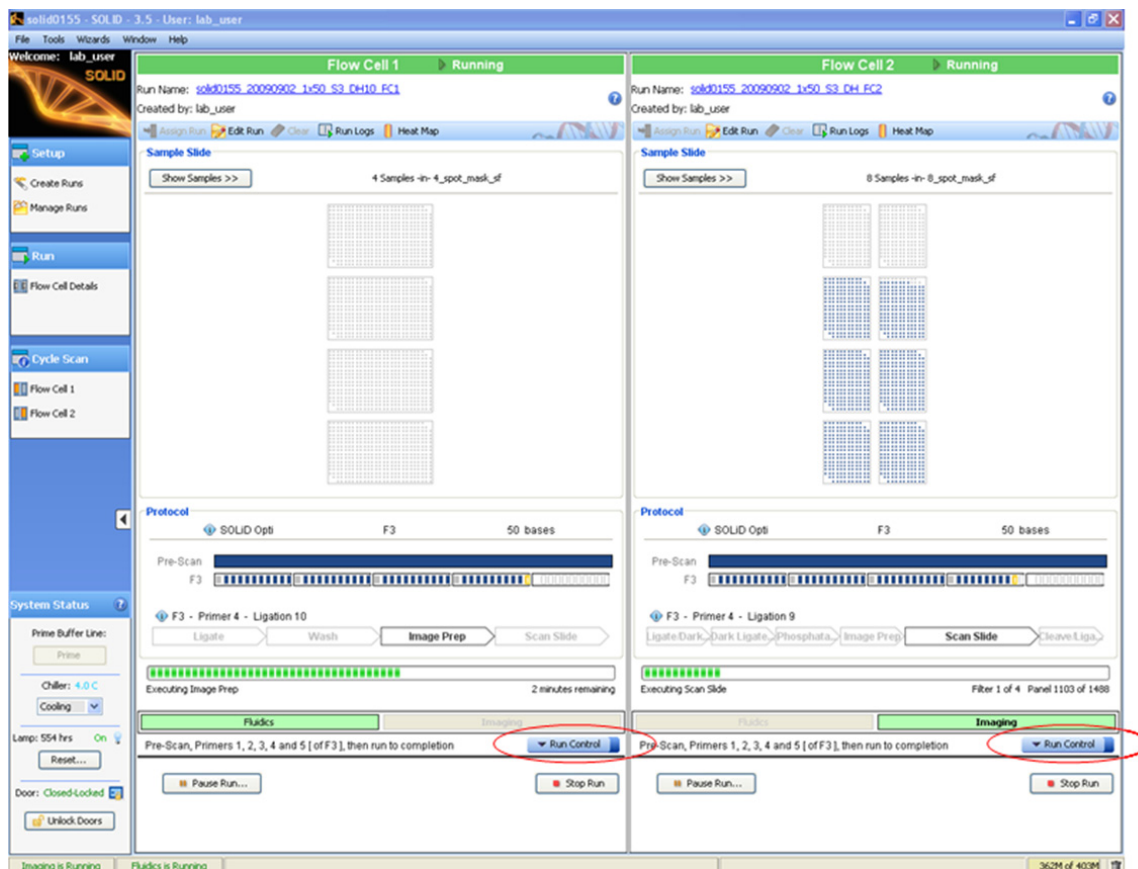

Figure 63 Click **Run Control** to display the Run Control menu for that flowcell.
1. Click **Run Control** to display the Run Control menu (see Figure 63).